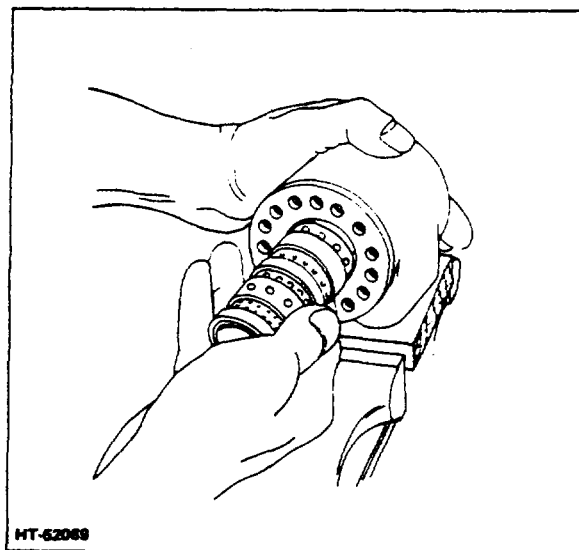

Figure 3-18. Installing Spool Assembly
9. Place the housing on a solid surface with the port face down. Install the spool assembly with the splined end of the spool entering the 14-hole end of the housing first (Fig 3-18). Push parts gently into place with a slight rotating motion.